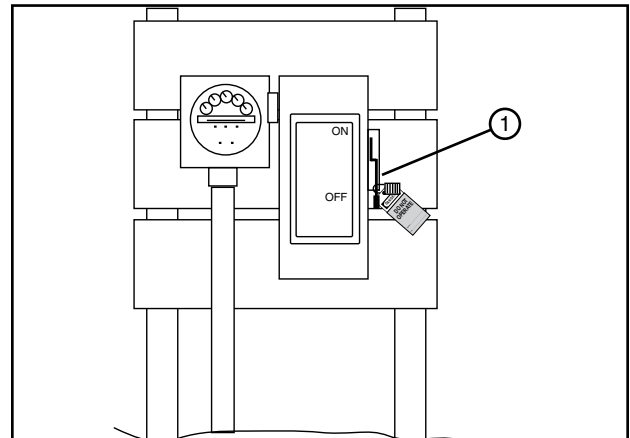

Figure 41-1 1. Public Power Service Disconnect
1. SHUT OFF and LOCK the public power service disconnect to the irrigation machine. See figure 41-1.
FILL OUT the blue (OSHA safety color code) tag and attach to the disconnect after locking. See figure 41-1.